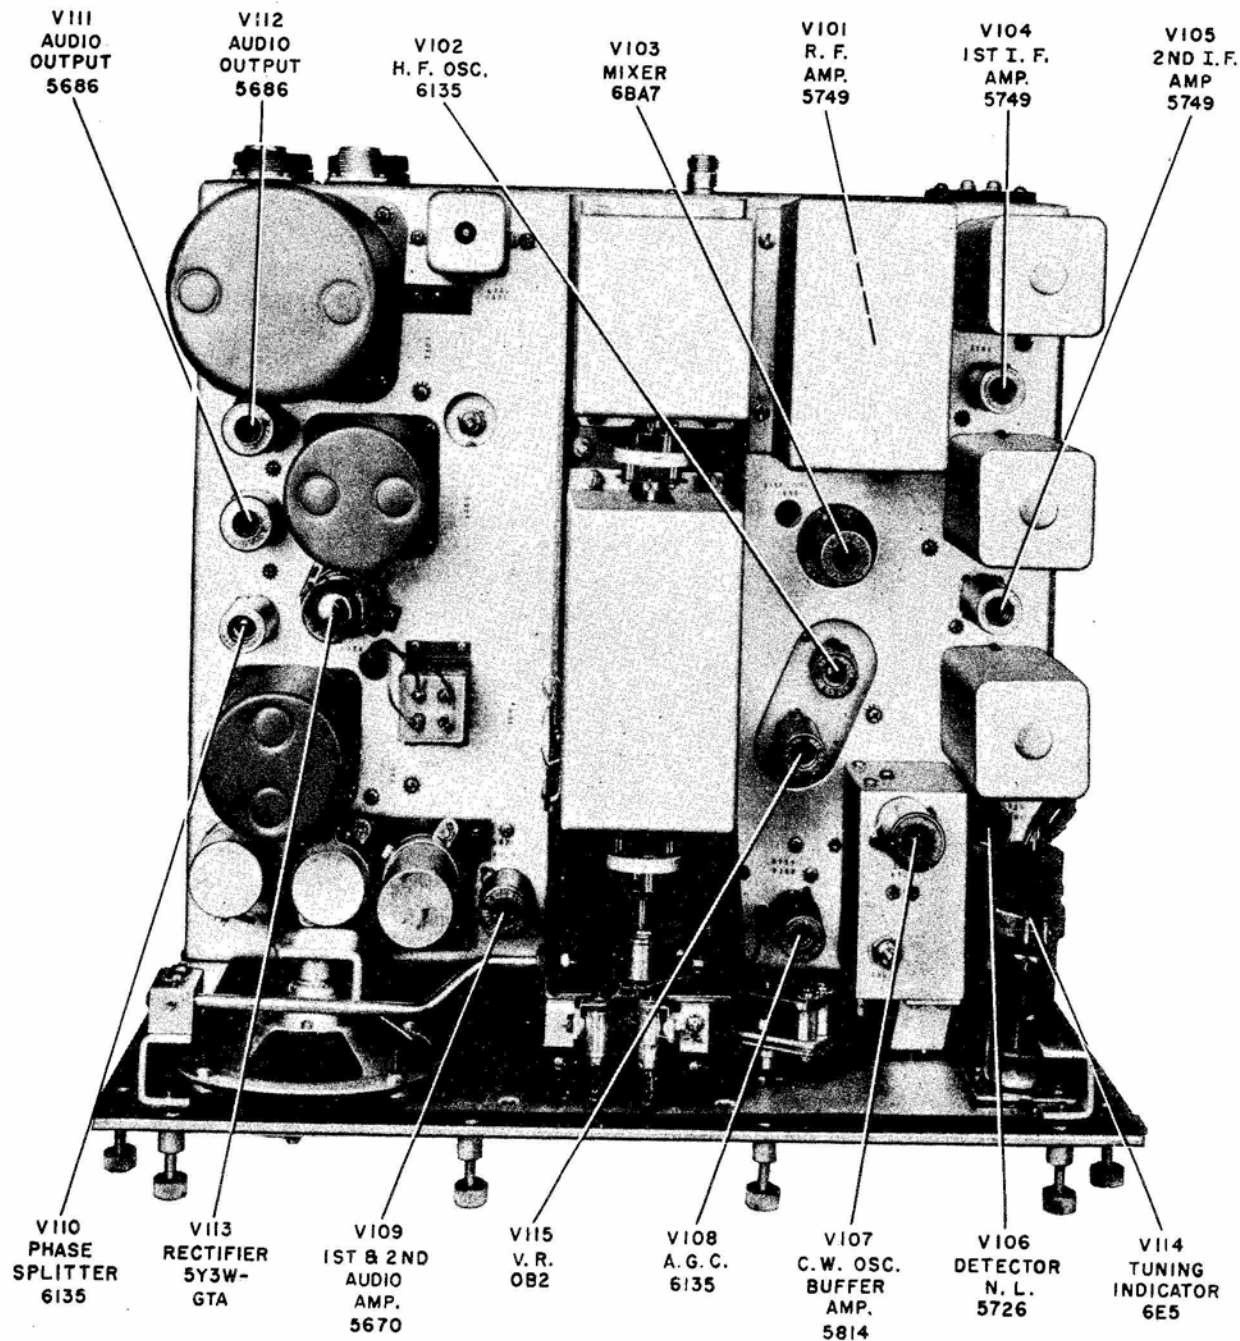

Figure 5-3. Tube Locations
c. **ELECTRON TUBE REPLACEMENT.**—All electron tubes employed in the R-302/URR-22 receiver are located and identified on Figure 5-3. If a particular tube is burned out as observed visually by the absence of heater or filament glow, the tube may be replaced by another of the same type of proven quality. The A.C. plug may be connected at this time to energize the receiver so that the tubes may be visually inspected.